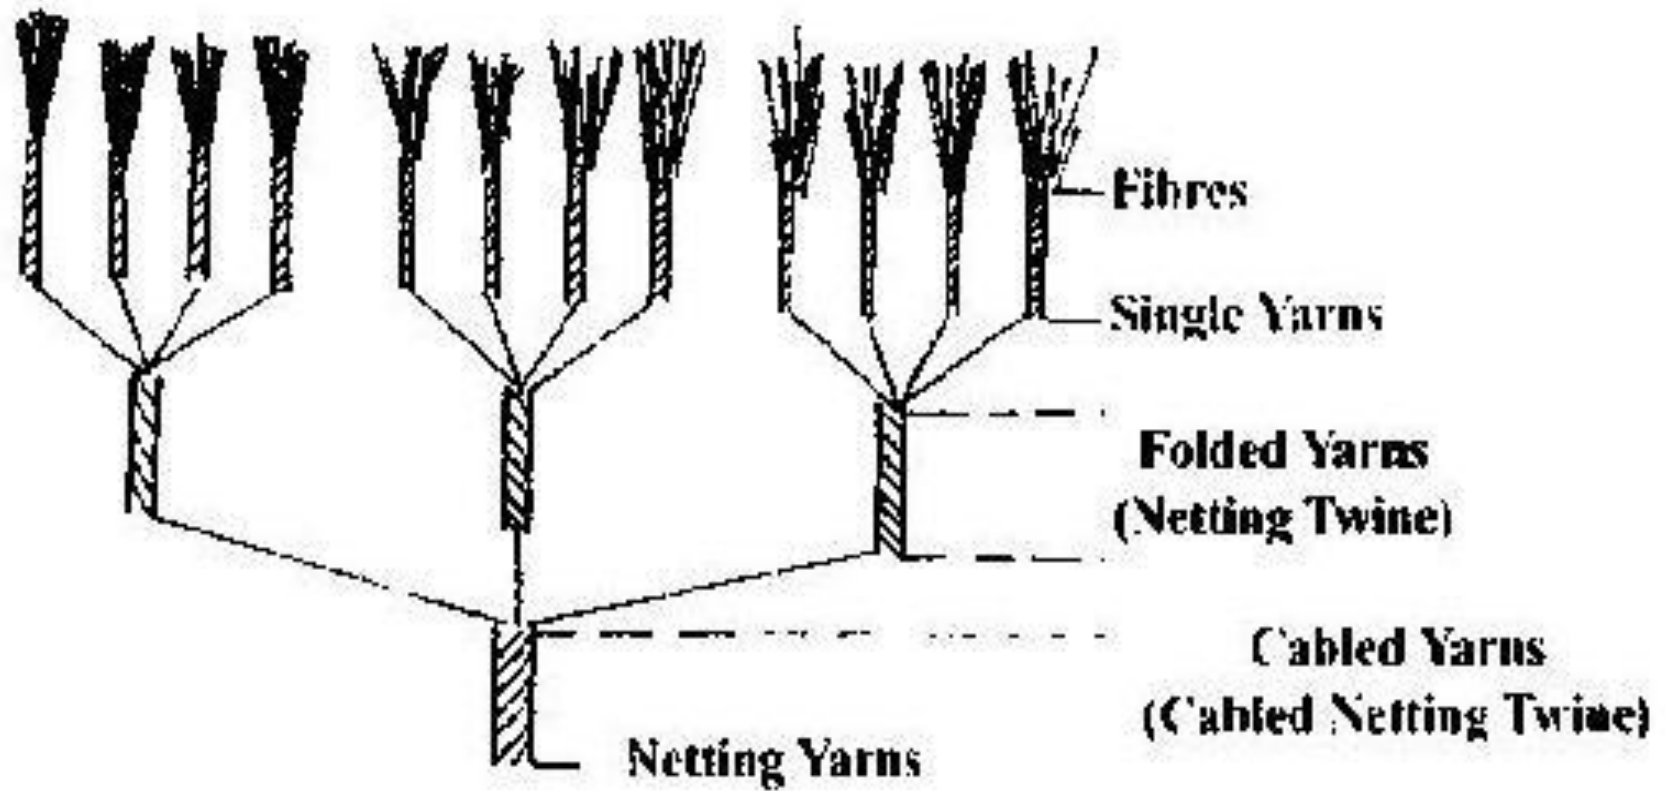

Fig. 1
- It is usually made by twisting single yarns into folded yarn and cabled yarn. (Fig. 1)